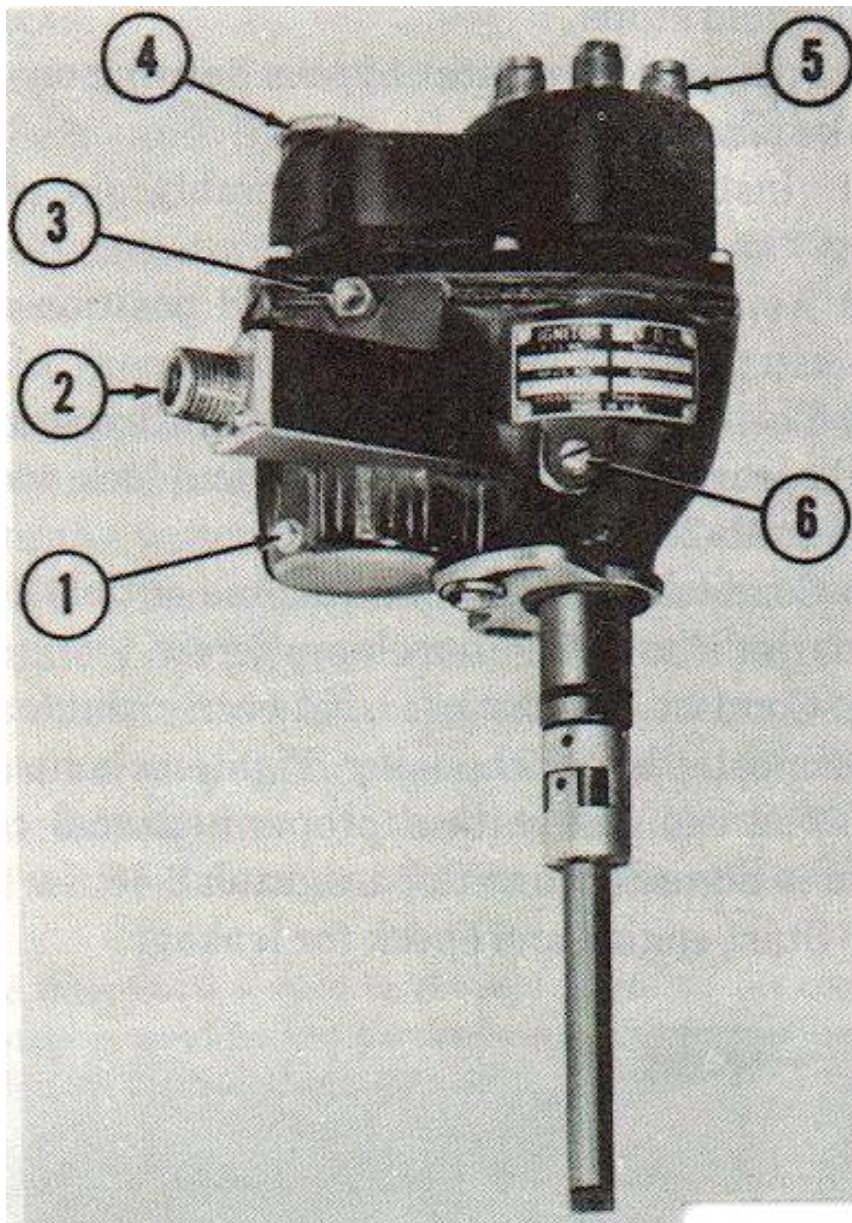

Figure 2-29. Ignitor.
b. ignitor. The ignitor (fig 2-29) is designed for 24-volt DC primary current and is a completely waterproof unit. A water tight access plug is provided on the cover to allow connection to test instruments. The cover and lower housing enclose the ignition coil and distributor cap. Six water tight outlets are provided at the top to accept the spark plug cables. Two water tight outlets in the body are provided for the ventilation lines to the vacuum pump and to the carburetor. A drain plug is provided on the bottom of the base under the primary connector. A felt wick, accessible when the pipe plug below the name plate is removed, permits shaft lubrication while the ignition ignitor is mounted on the vehicle. The name plate on the right front of the body gives the specification number, manufacturer's number, ordnance number and serial number. The main parts of the ignition ignitor are cap, rotor, ignition coil, ballast resistor, breaker plate (which includes points and condenser), cam, drive shaft and base. The ignition coil is a component part of the unit. The primary circuit consists of the coil primary winding, ballast resistor feed-through capacitor, breaker points, two cables and the ignitor condenser. The secondary circuit consists of coil secondary windings, bakelite cap, rotor and spark plug cable terminals.